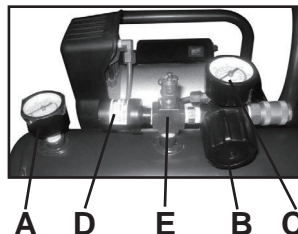

FIGURE 5
**PRESSURE SWITCH (D) FIG.5.** The pressure switch automatically starts the motor when the tank pressure drops below the factory set "Cut-In" pressure. It also stops the motor when the air tank pressure reaches the factory set "Cut-Out" pressure.
**REGULATOR (B) FIG.5.** The air pressure coming from the air tank is controlled by the regulator. Turn the regulator knob clockwise to increase pressure and counterclockwise to decrease pressure. To avoid minor readjustment after making a change in the pressure setting, always approach the desired pressure from a lower pressure. When reducing from a higher to a lower setting, first reduce the pressure less than that desired, then bring it up to the desired pressure. Depending on the air requirements of each particular accessory, the outlet regulated air pressure may have to be adjusted while operating the accessory.
**OUTLET PRESSURE GAUGE (C) FIG.5.** The outlet pressure gauge indicates the air pressure available at the outlet side of the regulator. The pressure is controlled by the regulator and is always less than or equal to the tank pressure.
**TANK PRESSURE GAUGE (A) FIG. 5.** The tank pressure gauge indicates the reserve air pressure in the tank.
**SAFETY VALVE (E) FIG. 5.** If the pressure switch does not shut off the air compressor at its "Cut-Out" pressure setting, the safety valve will protect against high pressure by "popping out" at its factory set pressure (slightly higher than the pressure switch "Cut-Out" setting).
9. Pull ring on safety valve (E) Fig. 5, allowing air to bleed from the tank until tank pressure is approximately 20 psi. Release safety valve ring.
**NOTE:** If drain valve is plugged, pull ring on safety valve (E) Fig. 5, and hold until air pressure has been released. The valve can then be removed, cleaned, and reinstalled.
4. Pull ring on safety valve (E) Fig. 5, allowing air to bleed from the tank, until tank pressure is approximately 20psi. Release safety valve ring.